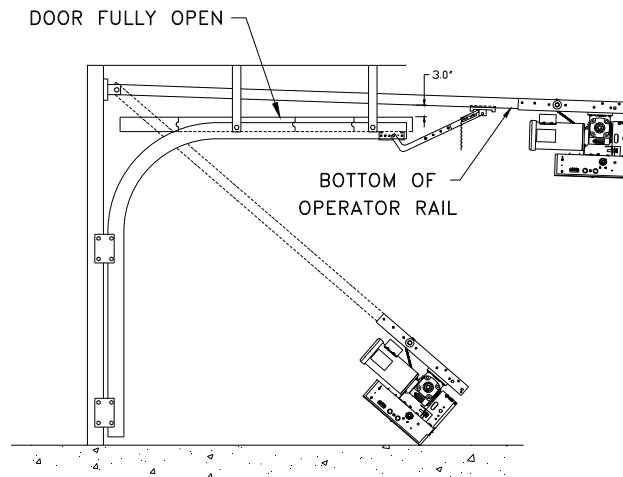

Figure 10 Adjusting height of operator
10. Carefully open door by hand and move rear of operator so that it is directly over center of door, with approximately 3" clearance between door and bottom of operator rails (Figure 10).